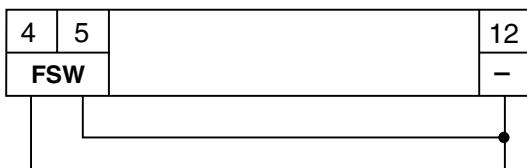

Fig. 16
**N.B.:** If no opening safety devices are connected, jumper connect inputs **OP** and **-** (fig. 16).
**N.B.:** If no closing safety devices are connected, jumper connect inputs **CL** and **-** (fig. 16).